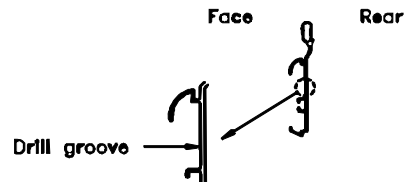

Fig 5
- Note: Use groove in retainer to locate centerline for drilling, see fig. 5*